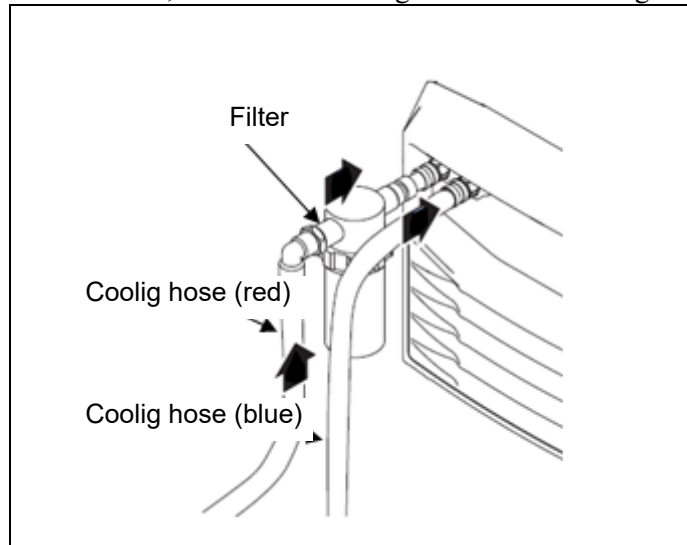

Fig. 2.2.5 (c) Connection of water cooling unit
- 4 Connect the flexible conduit and the wire feeder cable installed to the robot to the wire feeder. Refer to Fig. 2.2.5 (d).